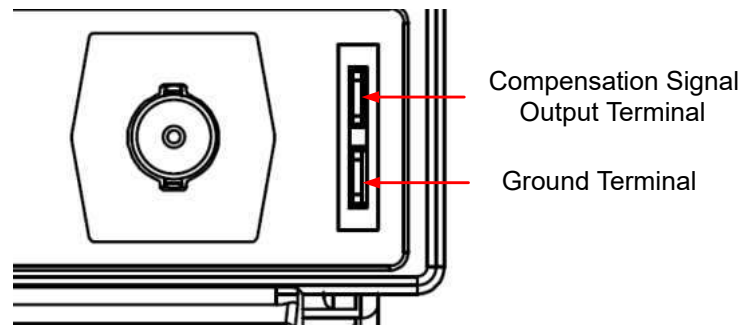

Figure 4.7 Use the Compensation Signal
2. Connect the ground alligator clip of the probe to the "Ground Terminal" as shown in Figure 4.7 below.
3. Use the probe to connect the input terminal of CH1 of the oscilloscope and "Compensation Signal Output Terminal" shown in *Figure 4.7*.